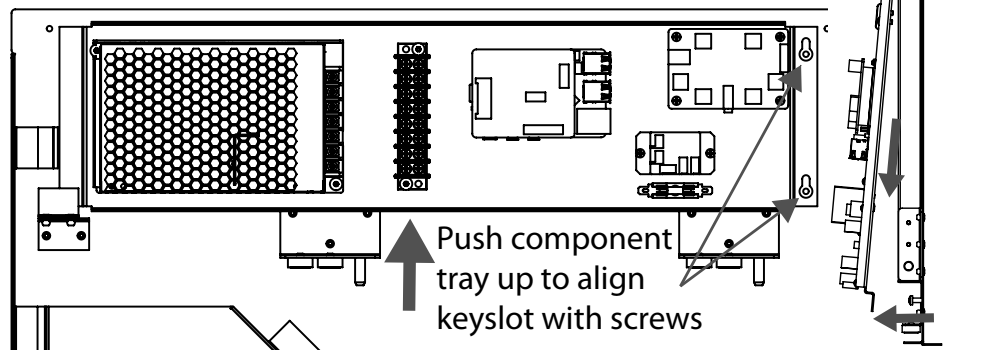

Figure 26: Component Tray Removal
3. Remove the nuts securing the panel at the keyslots shown in Figure 26.
4. Unhook the keyslots on the front flange of the component tray from the screws and angle the tray out (See Figure 26).